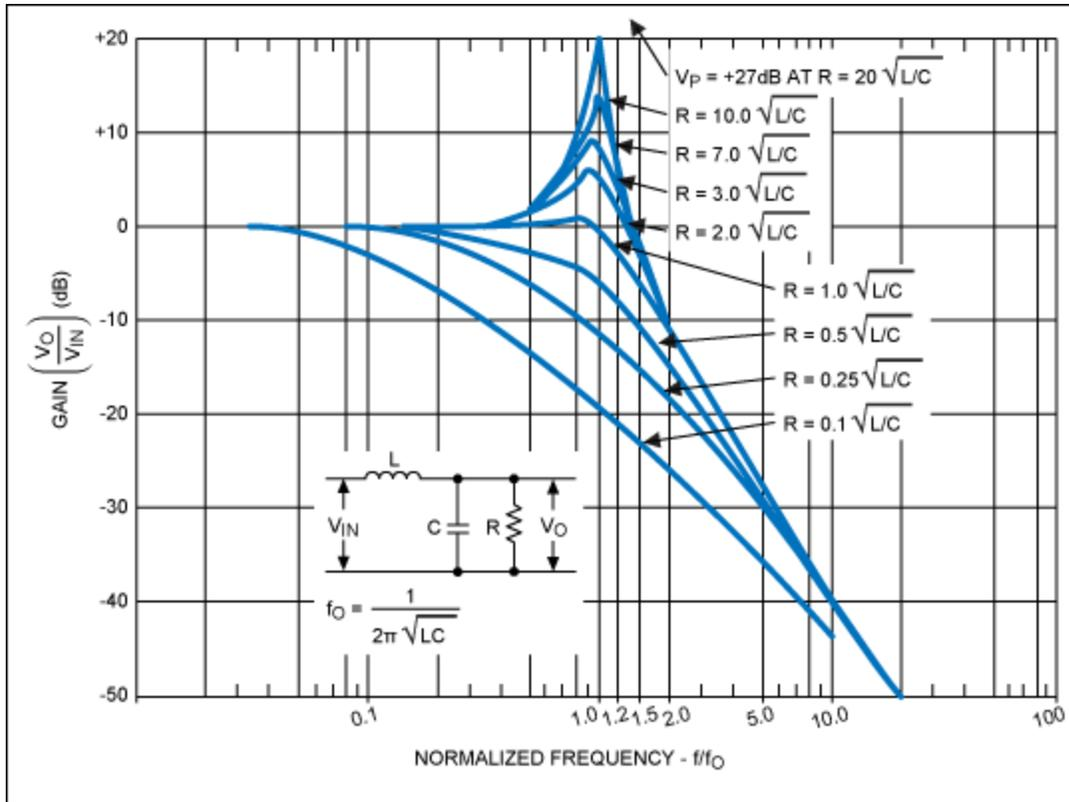

Figure 4a. LC filter amplitude characteristic for various damping ratios.
- An LC Filter.** The problem with using this type of filter is the lack of inherent damping at the output of the network (input of the regulator). The source impedance of the network is low. However, the regulator's V_{IN} terminal presents a high impedance shunted with a small capacitor. (When the regulator is operated away from dropout with a constant load, its input current does not vary, to first order, when V_{IN} is varied.) It is impossible to critically damp the LC network at the input of the regulator without significant DC loss in the shunt-damping resistor. For example, a series $10\mu\text{H}$ inductor, combined with a shunt $100\mu\text{F}$ capacitor, exhibits a turnover frequency of 5kHz . This combination requires a critical damping resistor of 0.32Ω between network output (regulator input) and ground. **Figure 4a** illustrates the problem.